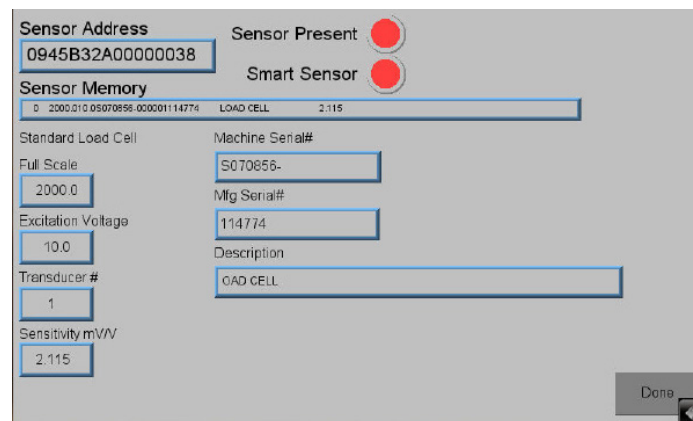

Figure E.7: Smart Sensor Screen
The Smart Sensor Screen is shown in Figure E.7. It is displayed anytime the SMART SENSOR button is pressed on the Configuration Screen. Its main purpose is to display the data from a smart sensor to verify that the correct load cell is currently attached.
- Figure E.7 - Smart Sensor Screen 15